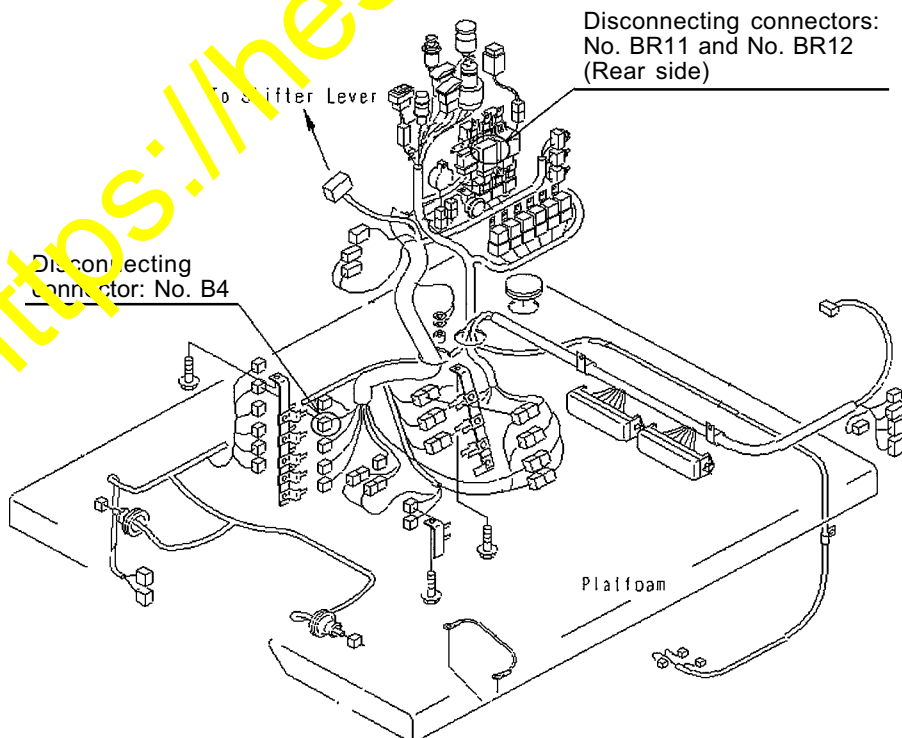

Fig. 4
4) Disconnecting the harness (Refer to Fig. 4.)